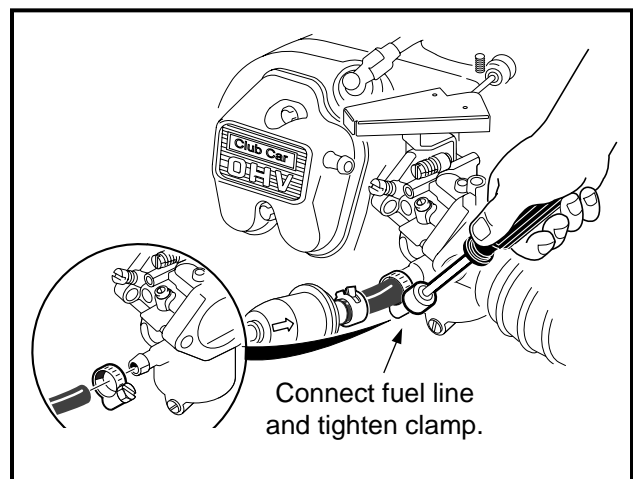

Figure 16-100 Connect Fuel Line
24. Connect accelerator cable to actuator cam in the electrical box. Position the accelerator cable in mounting slot in the wall of the electrical box and tighten mounting nuts to 18 in-lb (2.0 N·m) (**Figure 16-100, Page 16-38**). Install electrical box cover and tighten mounting screw.
25. Pull fuel line from impulse line fitting of the fuel pump, connect it to the carburetor and secure with a hose clamp (**Figure 16-100, Page 16-38**).